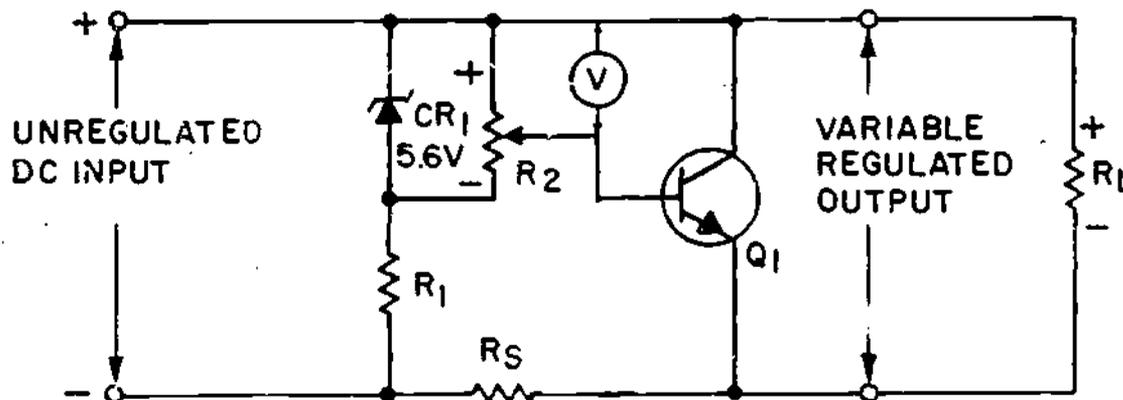

FIGURE 16
- (24.) Refer to the shunt voltage regulator schematic in Figure 16. Notice particularly that a potentiometer has been incorporated into the circuit. The pot is designated as R2.